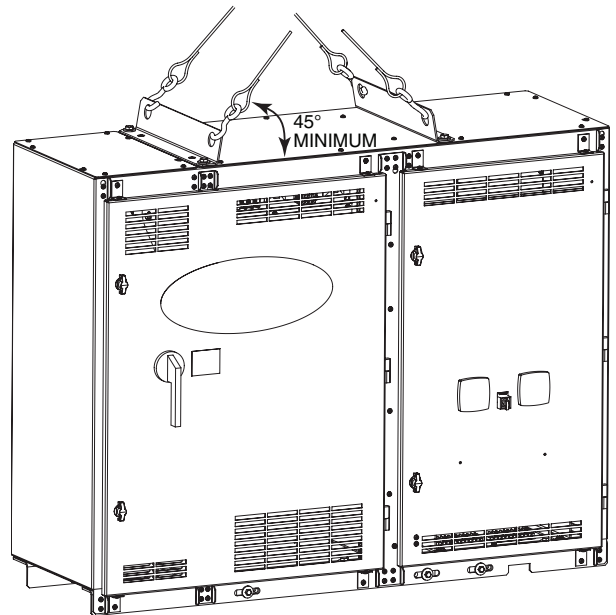

Fig. 7 — 442A and 608A VFD Enclosure Lifting Points
3. Rig the control center and remove the bolts that secure it to the VFD mounting brackets on the condenser. See Fig. 7.